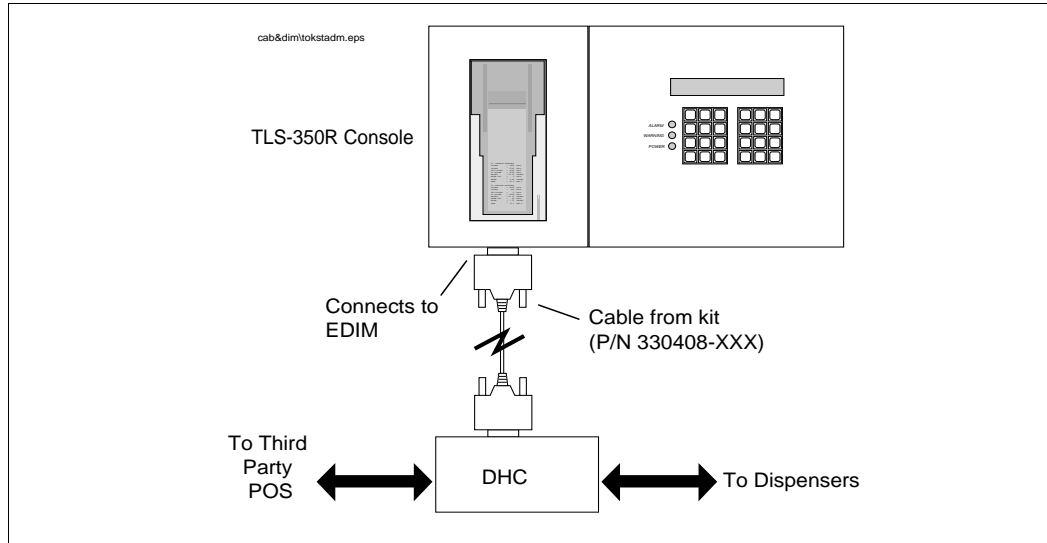
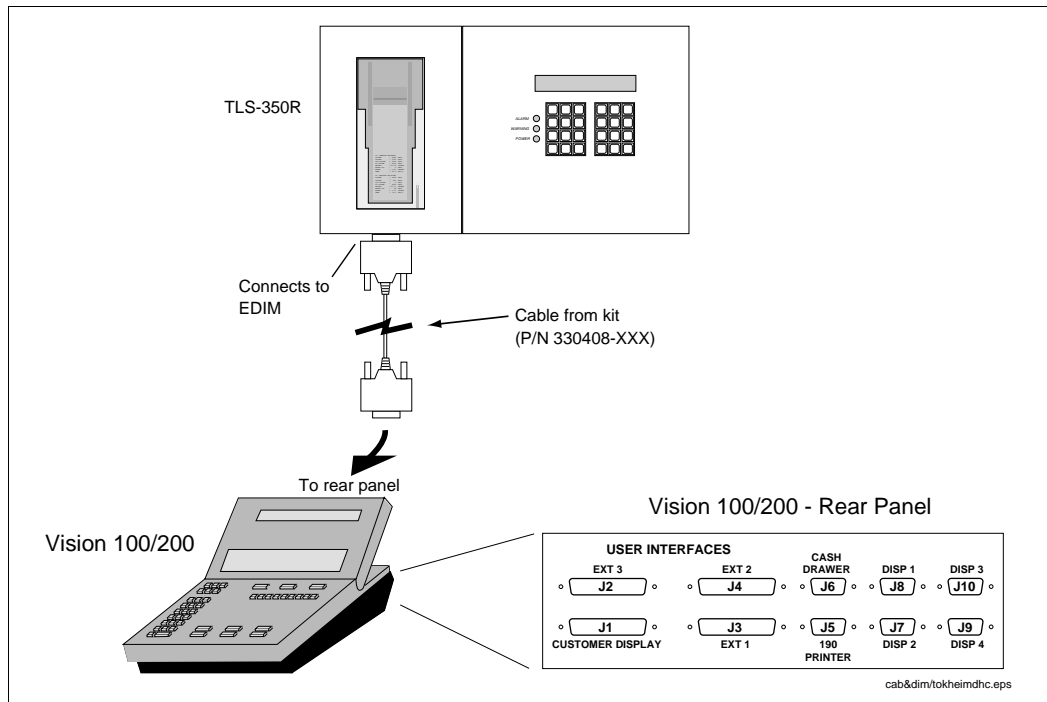

Figure 3. Stand-alone DHC Installation
Figure 4. Example of Tokheim Vision 100/200 Installation
1. Connect one end of the cable (330408-XXX) to the 25 Pin D connector on the Tokheim DHC DIM board you installed in TLS (see Figure 3 on page 6 and Figure 4 on page 6).
2. Connect other end of this cable to J2 on either the Stand-alone DHC (see Figure 3 on page 6 and Figure 5 on page 8), or on the Tokheim Console (see Figure 4 on page 6 and Figure 5 on page 8). The default setting for J2 is SCS 1200.